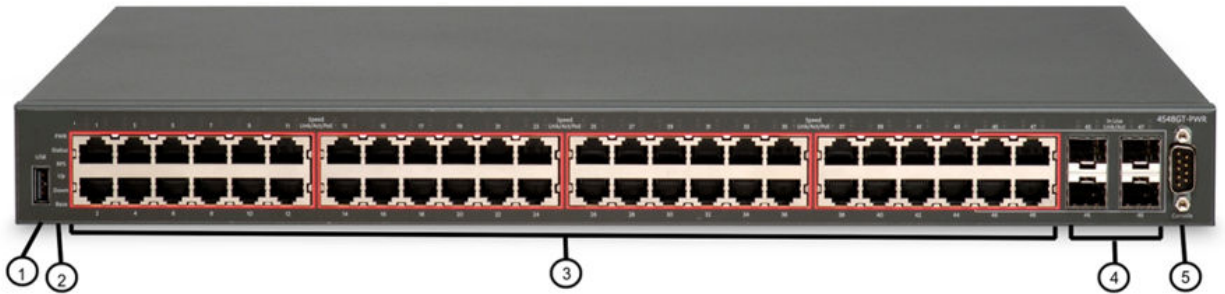

Figure 8: Avaya Ethernet Routing Switch 4548GT-PWR
- Figure 8: Avaya Ethernet Routing Switch 4548GT-PWR on page 51